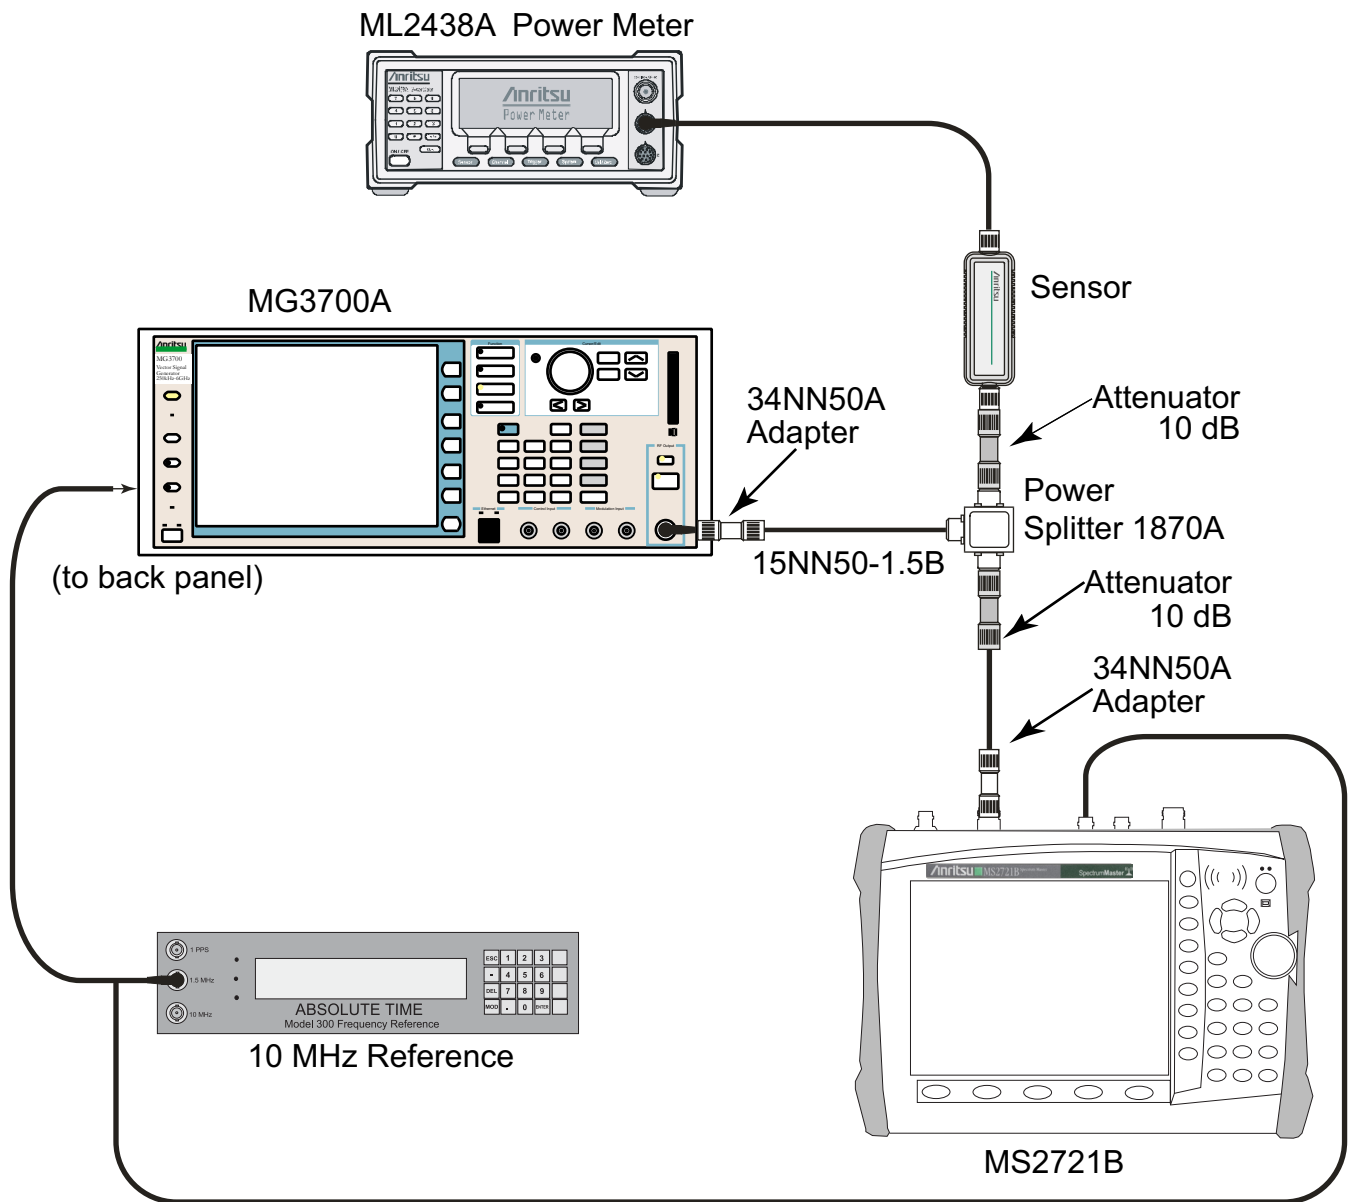

Figure 3-27. Mobile WiMAX Signal Analyzer Test Setup
4. Connect the Power Sensor, 1870A splitter, and 10 dB attenuators (2) as shown in Figure 3-27.